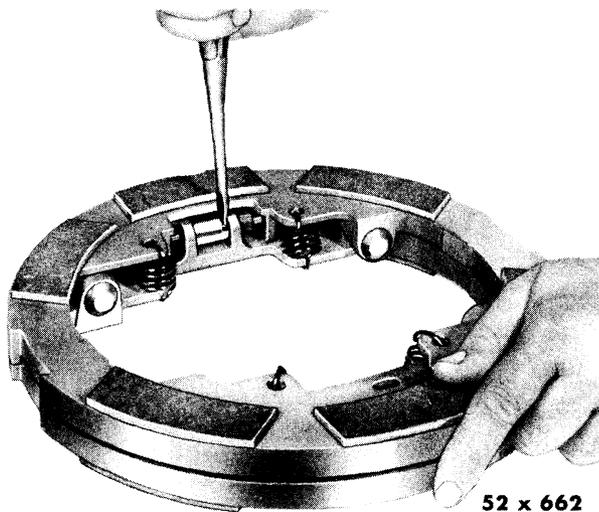
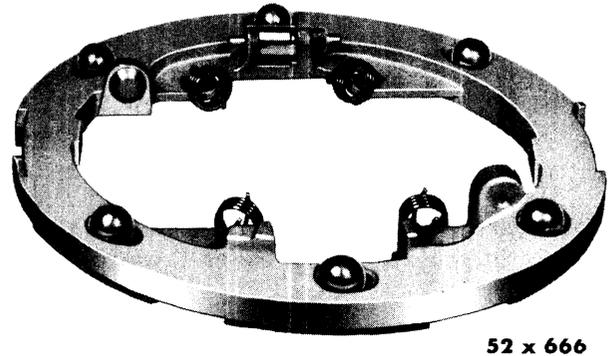

Fig. 50—Releasing Automatic Adjuster (Front or Rear Pressure Plate)
Fig. 56—Pressure Plate Expanding Balls in Ramps (Front or Rear Disc Brake)
- (1) Release both automatic adjusters, as shown in Figure 50, for easy assembly of pressure plate.
- (1) Release both self-adjusters on pressure plate as shown in Figure 50.
the adjuster guide of each adjuster, and then twisting screwdriver, the pressure plates will snap back into fully released positions. (See Fig. 50.)
- (3) Note that on each case aluminum pressure plate, six ball ramps are machined into the inside surface. (See Fig. 56.) Located in two groups of three on a circle, whose center is the axis of the housing, each ramp has a  $32\frac{1}{2}$  degree pressure angle. The pressure angle determines the amount of self-energization of the brake. The front brakes are not self-energizing in reverse.
- (1) With the automatic adjuster properly installed on each of the pressure plates, place the six steel pressure expanding balls ( $\frac{7}{8}$  inch diam.) in the six ramps, as shown in Figure 56.
- (2) Place the outer plate into position on inner plate. Automatic adjuster rods must also be centered so that operating lugs on the matching plate will straddle the rods.
- (3) Install the four pressure plate retaining springs. (See Fig. 50.)
- (4) Continue assembly as outlined in Paragraphs 21 or 24.
Insert a small screwdriver between adjuster bushing and bracket to release adjuster balls, as shown in Figure 50. Move the rod to one end. Wipe off pin surface and inspect. Move pin to opposite extreme to inspect other end of pin. Pin should be free of scoring or brinelling.